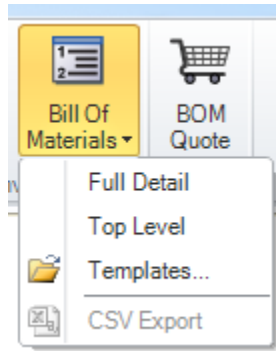

Fig. 1-16c Bill of materials
- Bill Of Materials: generate Bill Of Materials of your design, as Fig 1-16c.